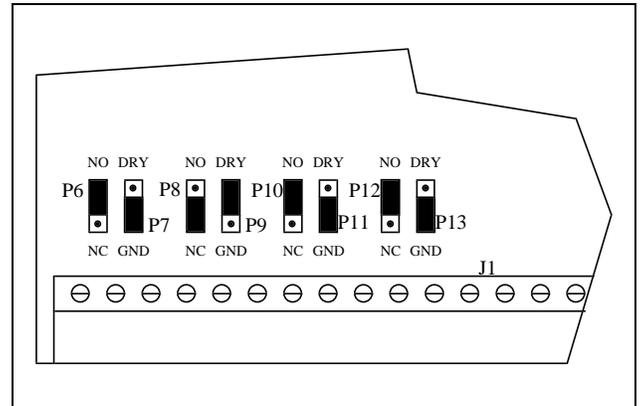

Figure 2 - Jumper Positions
2. Set the jumper positions in the Reset Unit per Figure 2 (the solid black rectangles represent the jumper plug).